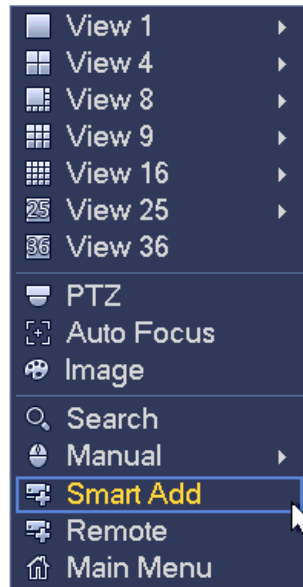

Figure 4-14
- On the preview interface, right click mouse and then select Smart add. See Figure 4-14.